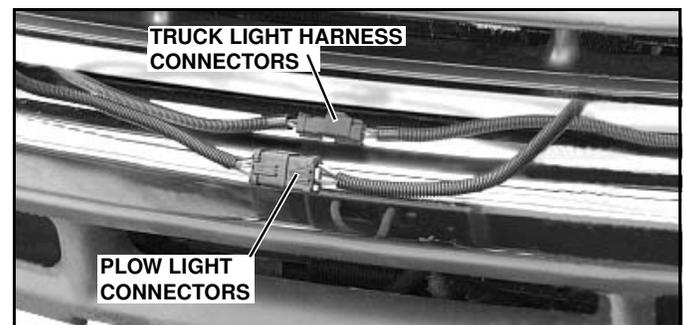

Figure 1-33
1. Unplug EIS[®] light harness connectors on truck, and disconnect plow light connectors, which had been plugged together for corrosion protection during storage. (See Figure 1-33).